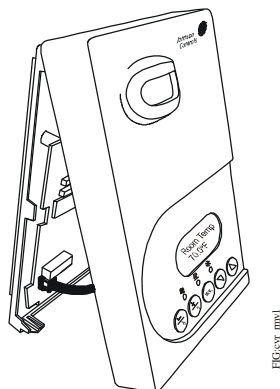

Figure 1: Removing the Thermostat Controller Cover (T600HCx-4+PIR Model Shown)
2. Pull the bottom edge of the thermostat controller cover and open the thermostat controller as illustrated in Figure 1.